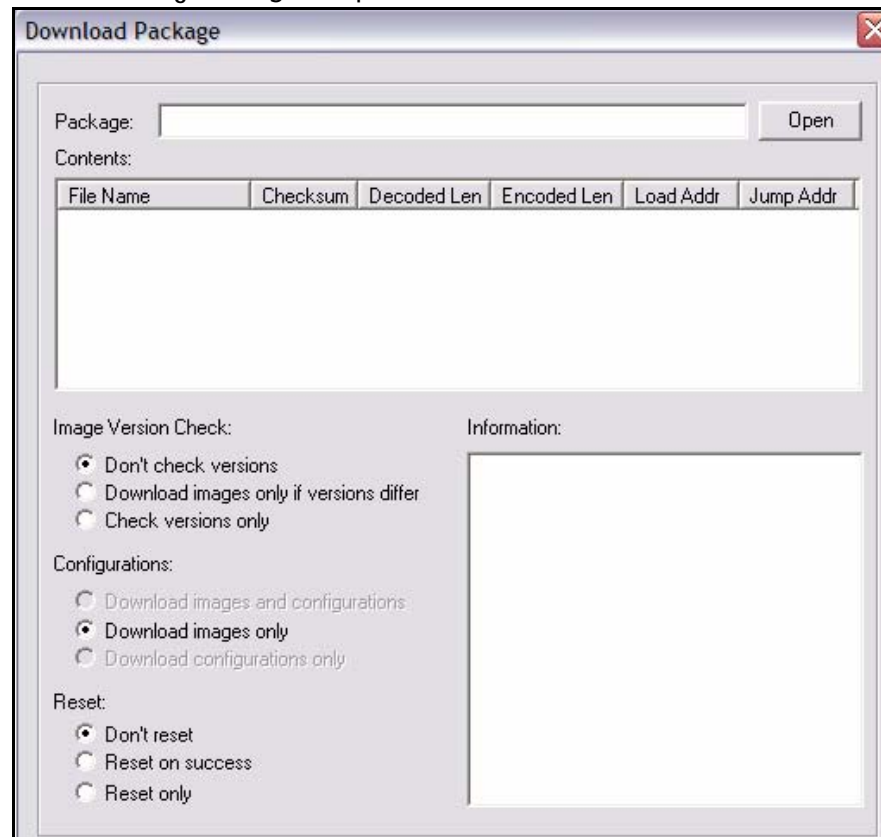

Figure 14. Download Package Dialog Box
1. Click the Open button in the Download Package dialog box again (Figure 14 on page 15) and navigate back to the folder containing the remote packages for your Satellite Router.